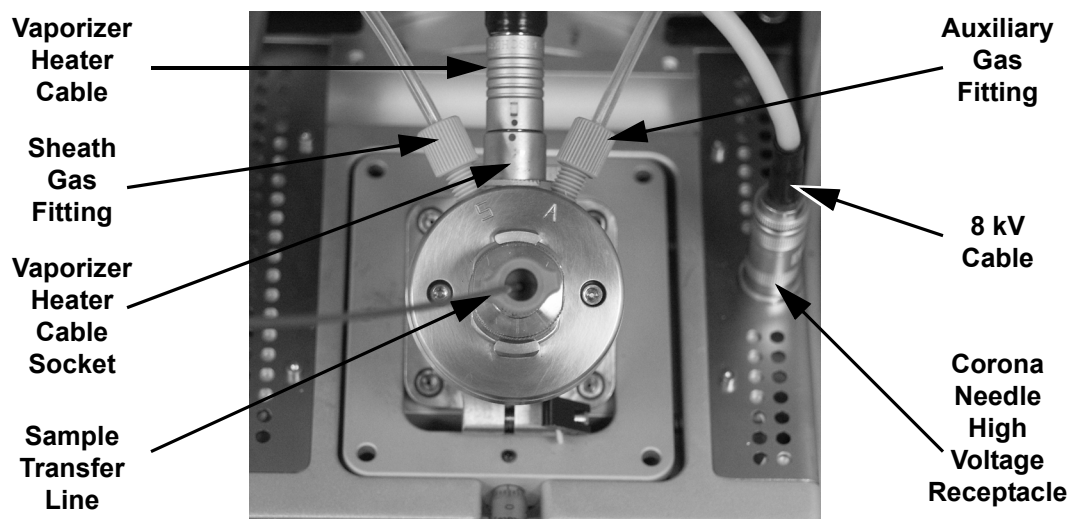

Figure 2-2. Ion Max ion source with APCI probe installed
1. Unplug the vaporizer heater cable from the vaporizer heater cable socket on the APCI probe. See Figure 2-2.
3. Disconnect the sample transfer line from the APCI probe. See Figure 2-2.
4. Remove the Auxiliary gas line (green colored fitting) from the APCI probe. (Figure 2-2)